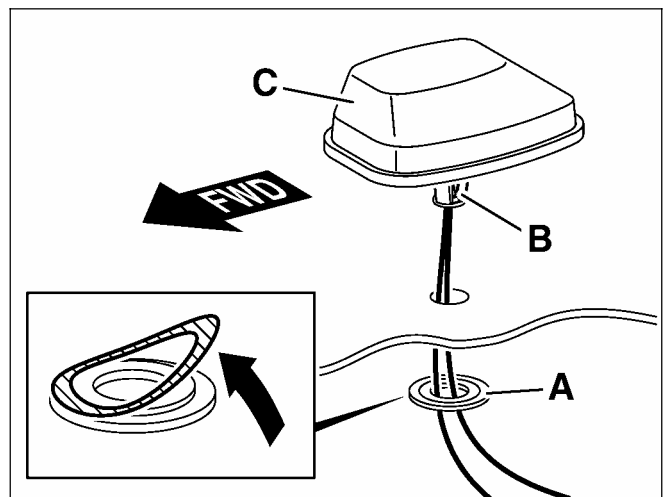

Figure 4
10. Remove the wax paper backing from the self-adhesive side of the “thicker” plastic washer (A, Figure 4).
11. From the trunk lid underside, affix the adhesive side of the washer around the 20-mm hole (A, Figure 4).
13. Feed the SDAR antenna leads, from the topside of the trunk lid, through the affixed washer (A, Figure 4).
14. Carefully insert the SDAR antenna sleeve (B, Figure 4) into the washer (A, Figure 4) until it snaps into place.
15. Orient the SDAR antenna straight with the vertical end (C, Figure 4) facing the vehicle front and the beveled end the vehicle rear.